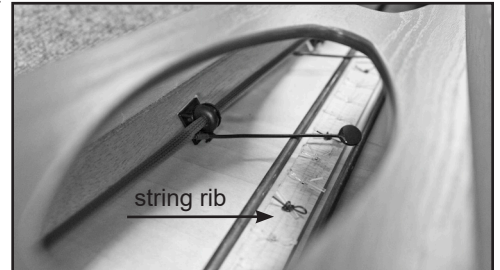

Figure 7 – Lead wire orientation
2. Orient the harness so the pickup element lead wires point toward the string rib, away from the side of the harp (see figure 7). You can rotate the grommets if you need to.